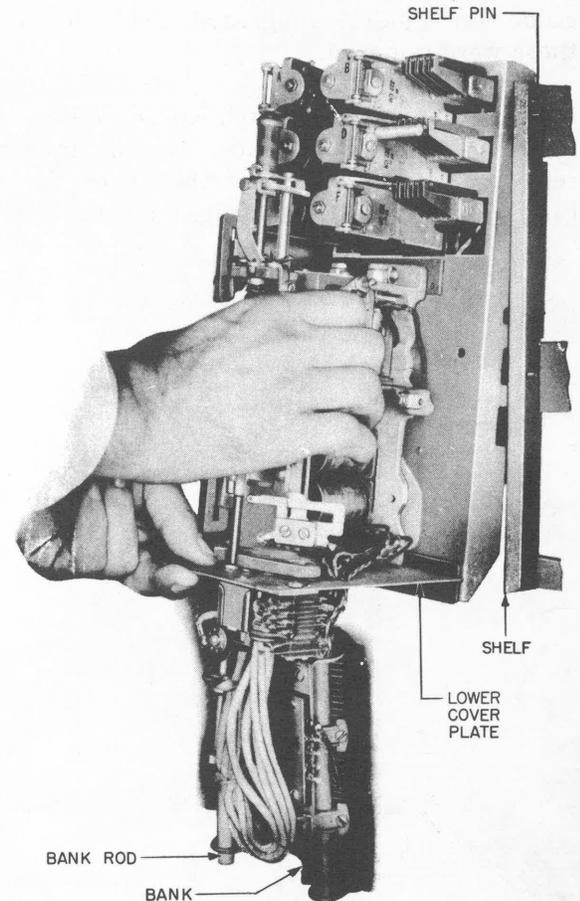

Fig. 4 – Method of Removing Switch From Frame
3.09 Place the left hand under the lower cover plate of the switch and grasp the switch firmly with the right hand as shown in Fig. 4. The thumb should rest on the release armature bracket on the left of the switch and the first three fingers should rest on the release armature on the right. Then, while pressing the switch inward, lift it upward until the shelf pins are opposite the slot openings. Hold the switch in this position with the right hand and, at the same time, steady the bank with the left hand and exert a slight pressure toward the shelf so as to prevent the wipers from catching on the bank contacts. When clearance is assured, re-grasp the lower cover plate with the left hand and tilt the lower portion of the switch forward to avoid damage to the wipers. Then draw the switch forward free of the shelf.